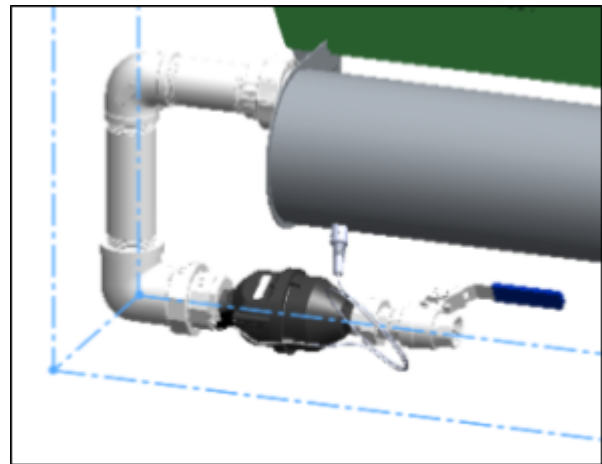

Figure 12.
▲Note: The bypass must be installed so that it exits below the mixing tank. See Figure 12.
- o **▲Note:** Install the water meter with the dials facing up and the arrow pointing toward the bypass. See Figure 12.